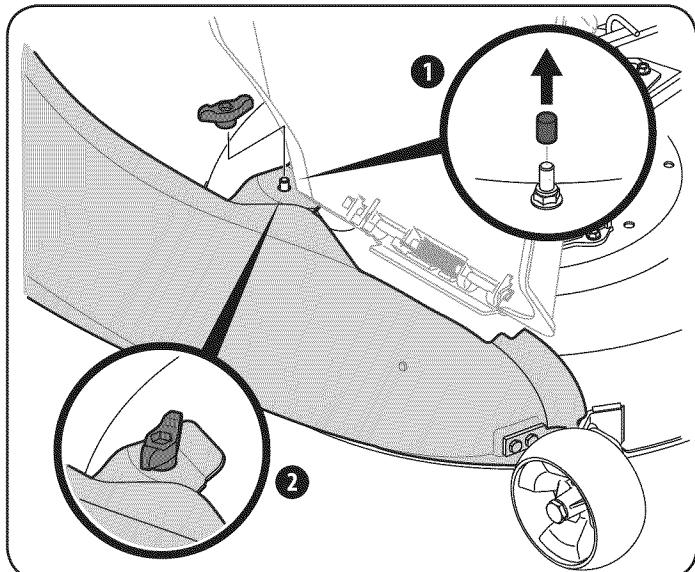

Figure 17
**Note:** Determine if your deck is a newer model, or an older model. Refer to the upper inset of Figure 17. If your deck has a mounting stud present, then you have a newer deck model and you would follow the instructions below. If no stud is present, refer to the instructions titled **On Tractors With Older Deck Configurations** later in this section.
- Secure the chute elbow to the deck using the wing knob 720-04122 from hardware pack 689-00319. See Figure 17.
**Note:** If present, remove the protective cap off of the mounting stud on the mowing deck as seen in the upper inset of Figure 17.